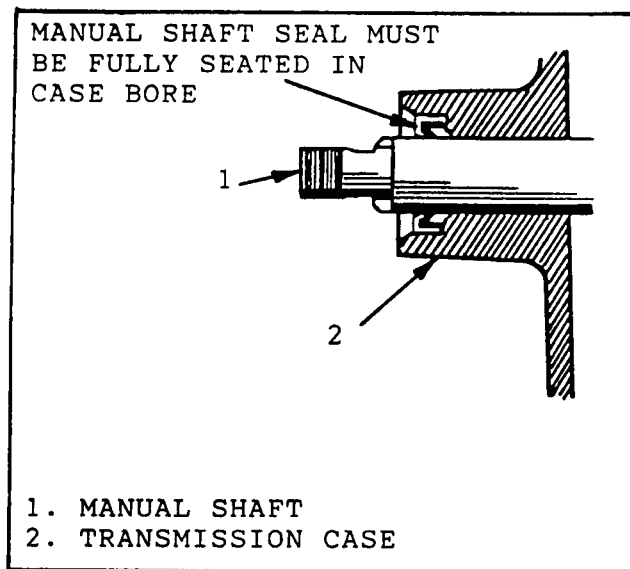

Figure 77
3. Install new manual shaft seal into the case using a 9/16" deep socket, and fully seat seal (See Figure 77).